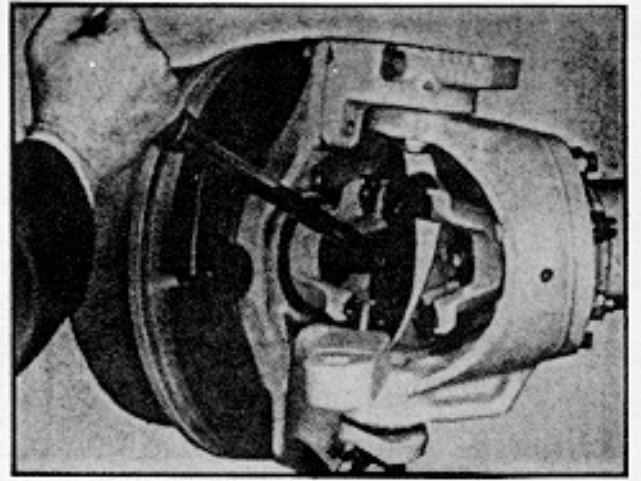

Fig. 14
4. With the end turned to full steering lock remove the bolt and washer retaining the outer drive yoke. (See fig. 14).